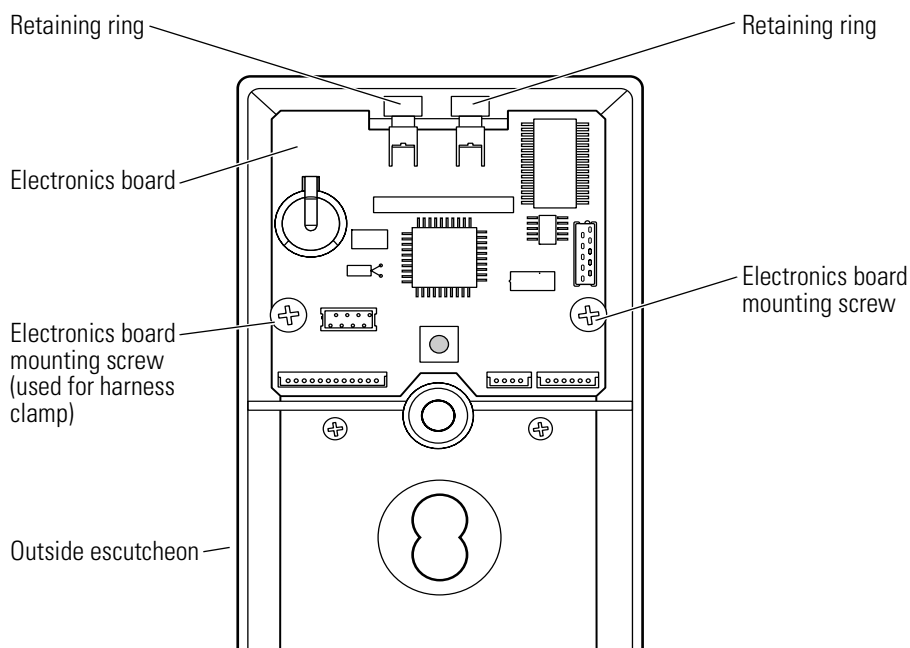

Figure 9.10 Removing and reinstalling the smart card control electronics board
2. Remove and save the electronics board mounting screws. See Figure 9.10.